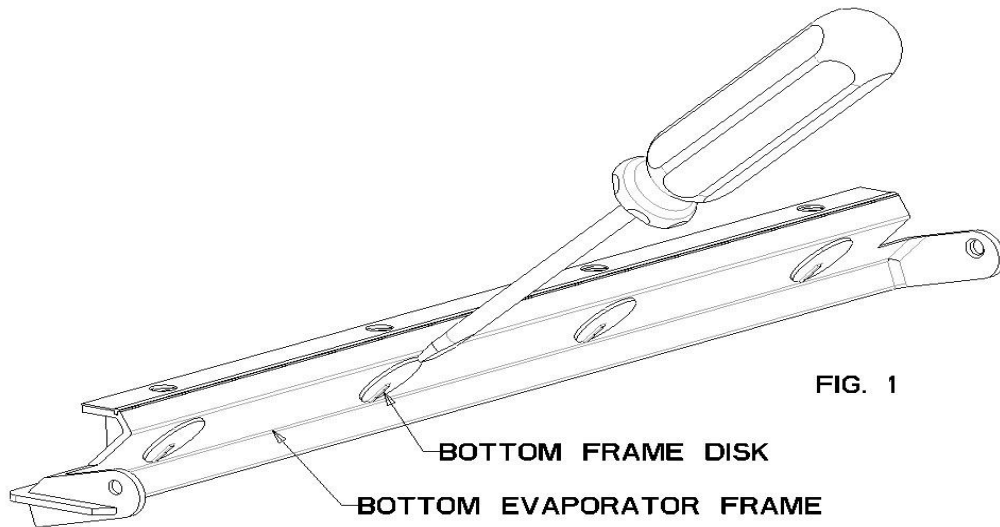

FIG. 1
3. Using a small flat screwdriver, chip out all four bottom frame disks (Fig. 1). **IMPORTANT:** Be careful not to damage nuts and evaporator studs beneath disks.